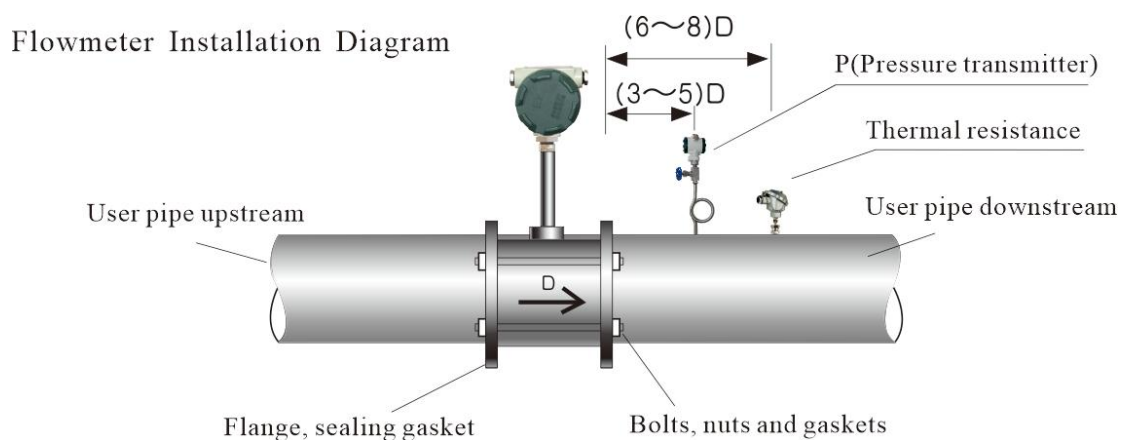

Fig.8 Outline drawing of wafer type
2. When temperature and pressure compensation is required, the pressure measurement point shall be at the downstream side of the sensor (3-5) D, and the temperature measurement point is at the downstream side (6-8) D of the sensor (Fig. 8)